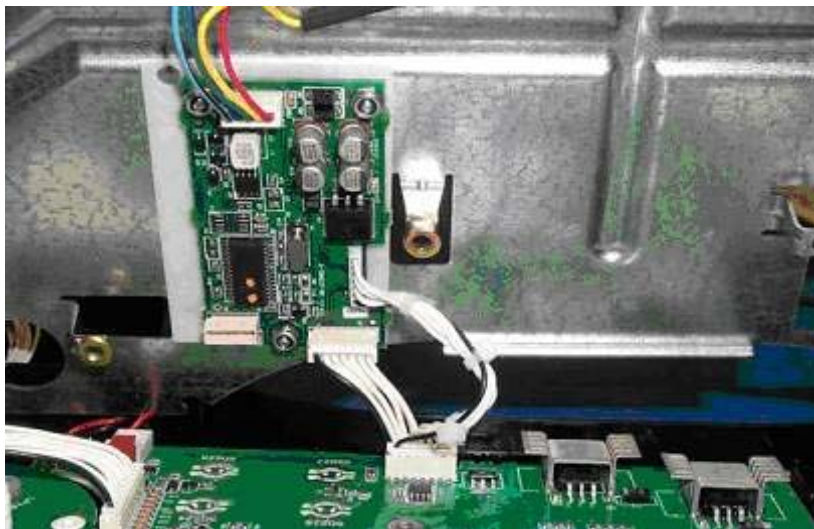

Figure 11 Interceptor Circuit Connections
11. Interceptor circuit should be connected as shown in Figure 11.